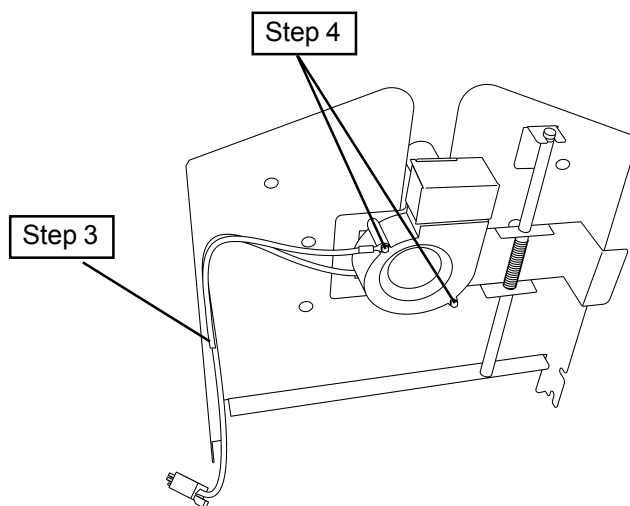

Figure 1
3. Loosen the 7 mm nut holding the ground cable according to figure 1.
4. Remove the two 7 mm screws holding the blower motor according to figure 1.